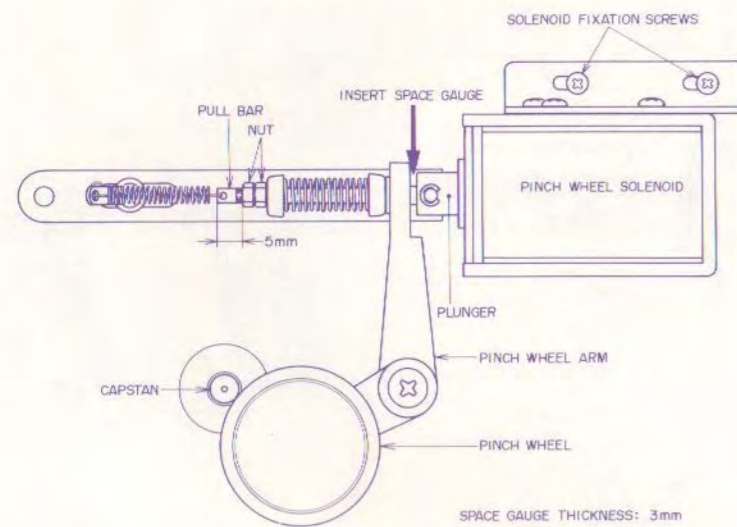

Fig. 5
5. PINCH WHEEL SOLENOID POSITION ADJUSTMENT (Refer to Fig. 5)